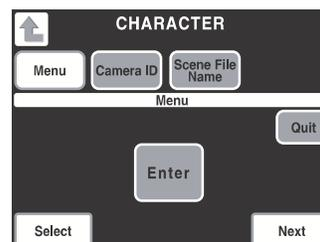

Fig.3 (Menu screen)
- The menu screen (Fig.3) appears on the LCD, and the main menu screen appears on the PM.